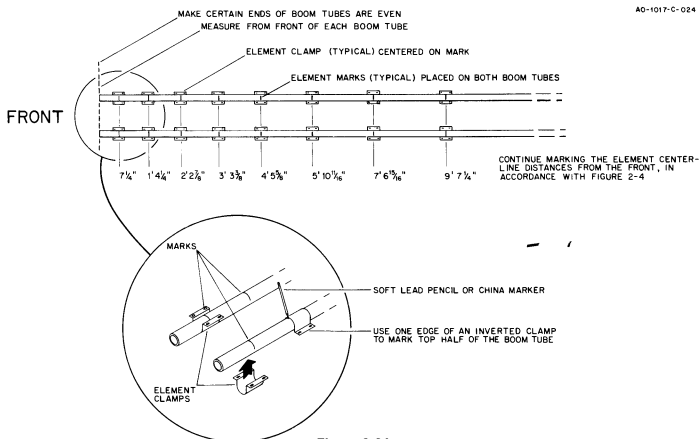

Figure 2-2A
Refer to Figure 2-2A and accurately center a 2" x 2" clamp (item 35, 170643) at each mark.
Refer to Figure 2-4, Plan View, and the Parts List of this manual. Loosely assemble the center insulators at the location marked on the right hand side of Figure 2-4. Always measure from the front of the boom to the center of each element. See Figure 2-2A.